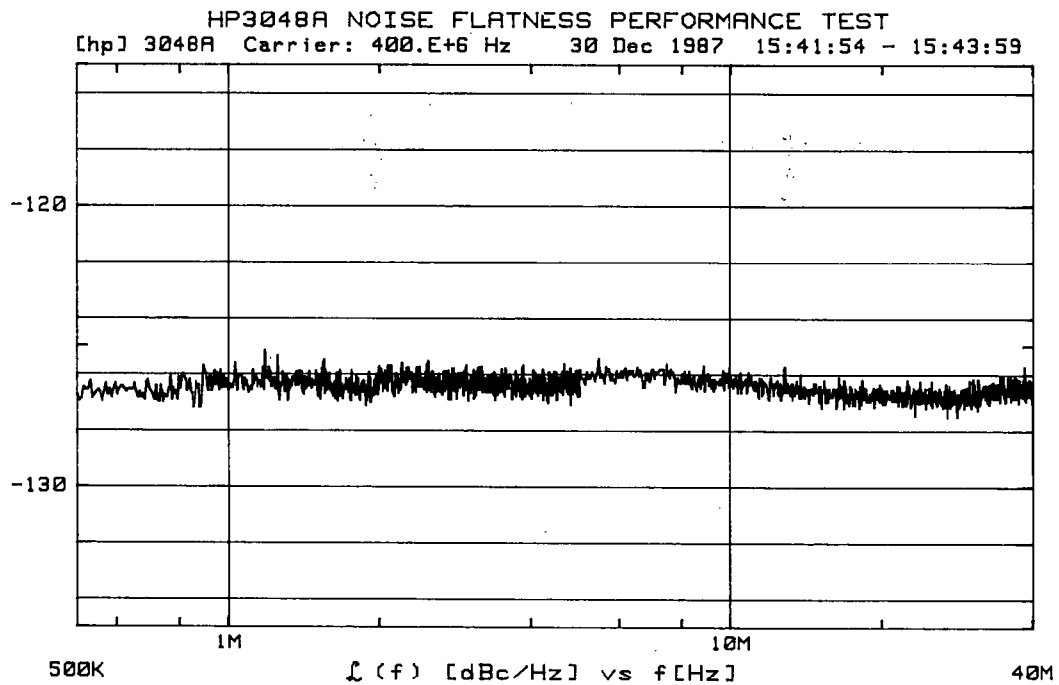

Figure 6. Typical Noise Flatness Test Results
7. Press the **Proceed** softkey. The measurement should proceed automatically without error messages (but see the following note) and the measured noise should be similar to that shown in Figure 6. (The measurement takes about 5 minutes depending on the controller.)